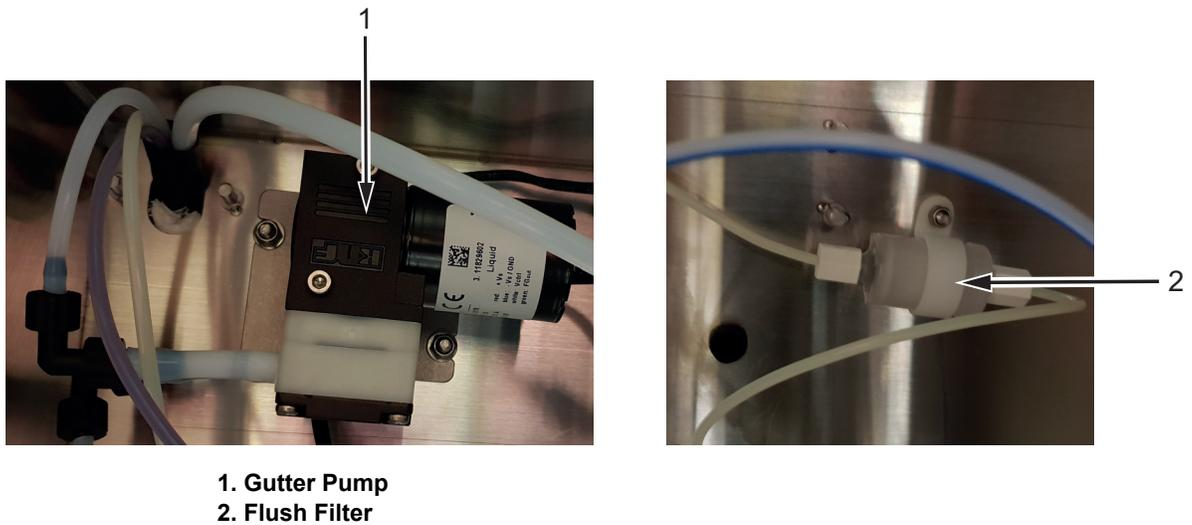

Figure 4-7: Ink Compartment Components
- Verify that tubing, gutter pump (item 1, Figure 4-7) and the flush filter (item 2) are clear of ink.